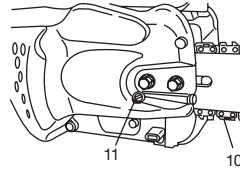

Fig. 5
7. Raise the bar end, and tighten the chain (10) by turning the tension adjustment bolt (11) clockwise. To check proper tension, lightly lift up the center of chain and there should be about 0.5-1.0mm clearance between bar and edge of drive link (12). (Fig. 5, 6)